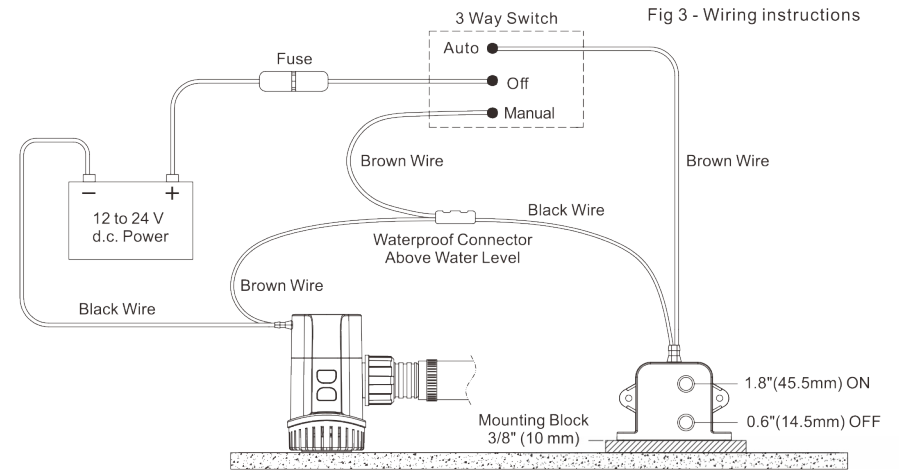

Fig 3 - Wiring instructions
1. Follow the wiring diagram (Fig 3). All fuses and the circuit breaker must be properly rated for the bilge pump within the circuit (see pump instruction manual for guidance). The maximum circuit breaker must be 20 Amps.